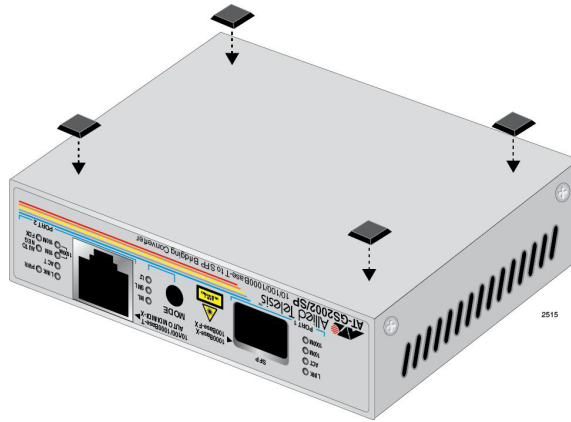

Figure 7. Attaching the Rubber Feet
3. Attach the four rubber feet to the bottom of the media converter as shown in Figure 7.